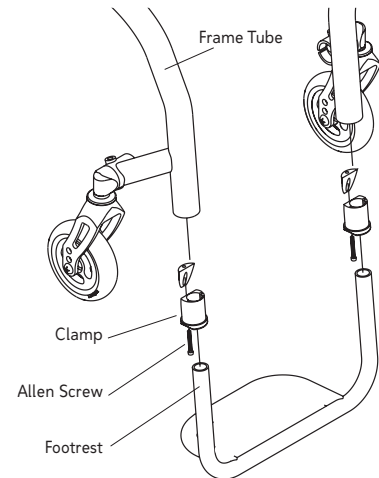

Figure 4
1. Loosen the Allen Screws in the two clamps that secure the footrest to the frame. See Figure 4. Loosen each Allen Screw until the entire head of the screw is completely visible outside the clamp.